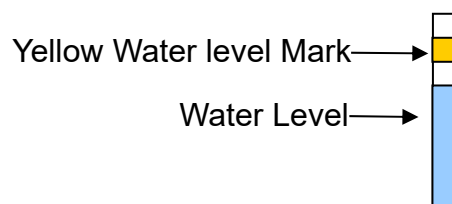
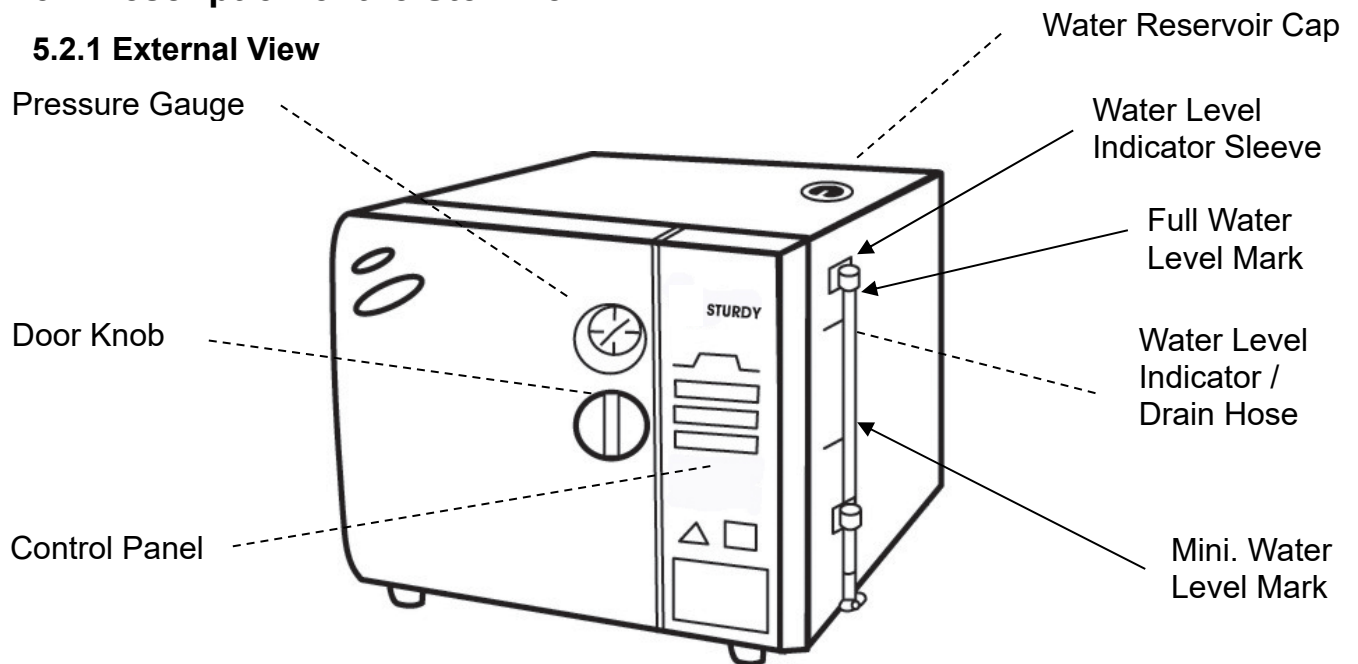

Figure 3
Figure 8
**Caution:** Please fill Distilled Water Only into the unit. Take care not to overfill the yellow water level mark as Figure 3 and Figure 8.